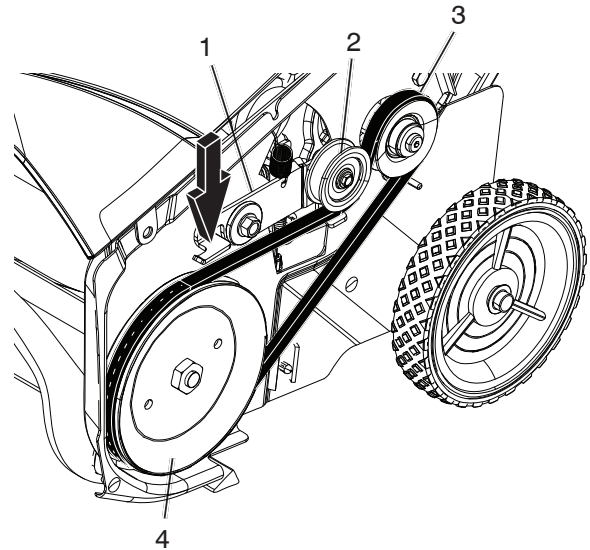

Figure 32
4. Install the new drive belt, routing it as shown in (Figure 32).
**NOTE:** Route the new drive belt first around the engine pulley, then the idler pulley, and finally around the drive pulley while pressing down on the front of the idler arm. (Figure 32).